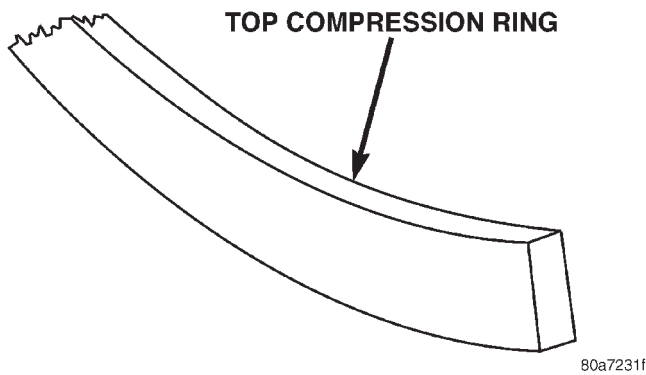

Fig. 8 Top Compression ring identification
(5) The oil control rings are symmetrical, and can be installed with either side up. It is not necessary to use a tool to install the upper and lower rails. Insert oil rail spacer first, then side rails.
(6) The two compression rings are different and cannot be interchanged. The top compression ring can be identified by the shiny coating on the outer sealing surface and can be installed with either side up (Fig. 8).